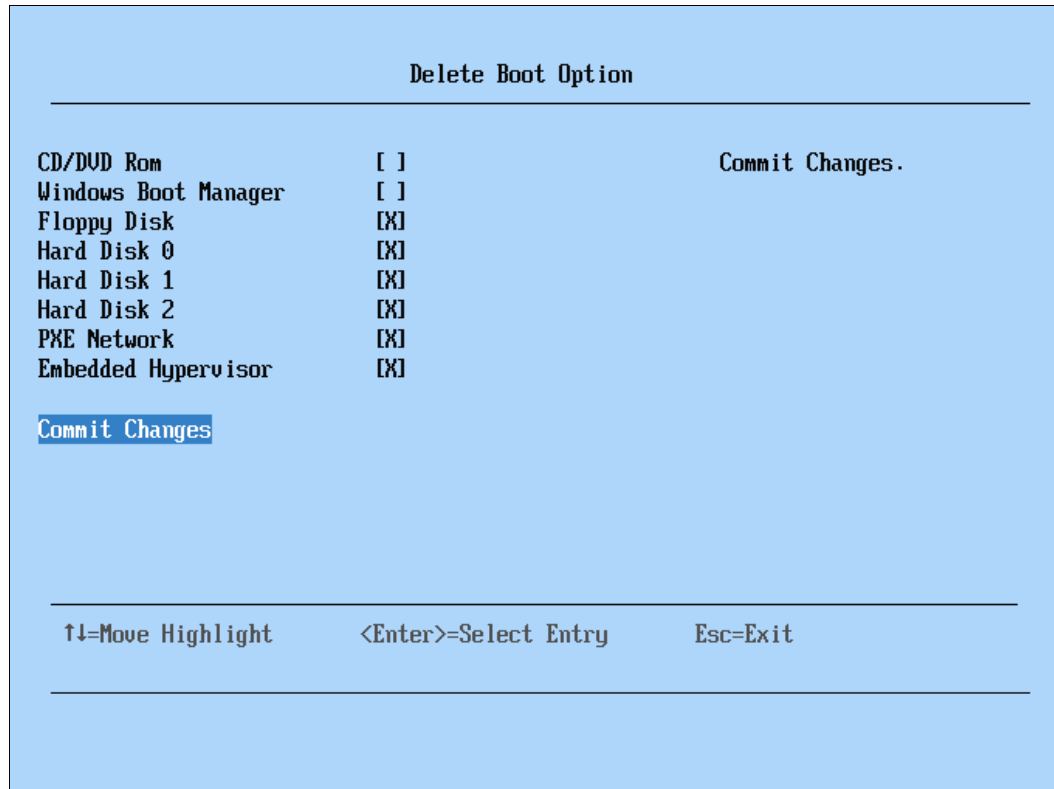

Figure 8-34 Deleting boot options
4. Select all of the items from which you do not want to boot by using the Spacebar to select them. When you have selected all of the items, scroll down to the end of the page using the down arrow key and select **Commit Changes**, as shown in Figure 8-34 on page 400.
Note that, in our example in Figure 8-34, we also have selected **Hard Disk 0** for removal. Our system is running Windows 2008 with GUID Partition Table (GPT) disk, and therefore, Windows Boot Manager is being used to boot the operating system.